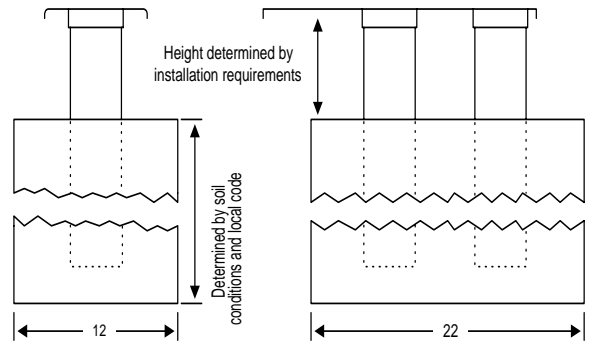

Figure 3
4. Once the location of **POINT C** has been determined, construct a form for the concrete pad according to Figure 3 and place the assembly into the form. Note that the depth of the pad is determined by soil conditions and local building codes.